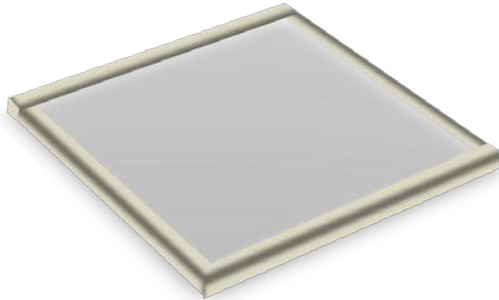

Figure 4: A sample image of the glass sheet with edges wrapped in masking tape.
2. Wrap the edges of the glass sheet with masking tape (Figure 4).